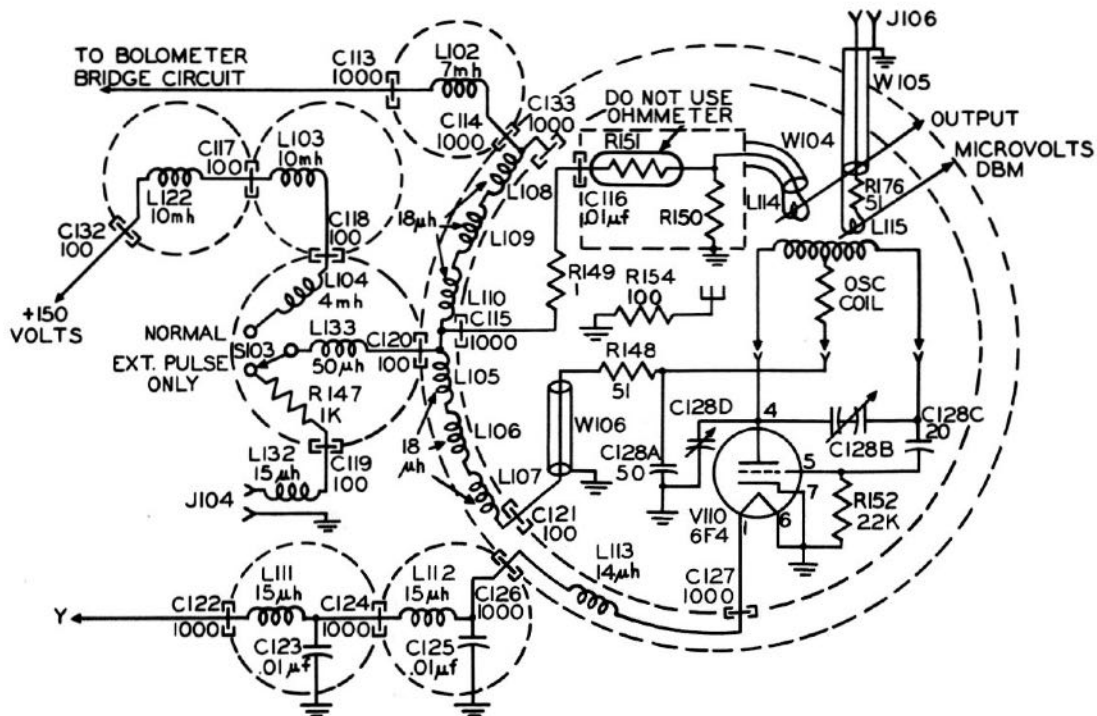

Figure 2-4. RF Signal Generator SG-45A/URM-26, Functional Schematic Diagram, RF Oscillator
a. The RF oscillator utilizes a conventional split Colpitts circuit and is shown schematically in figure 2-4. Six coils, each with switch-blade terminals and mounted on a rotatable disc, provide means for range selection. The range selector knob moves this disc simultaneously with the dial mask.